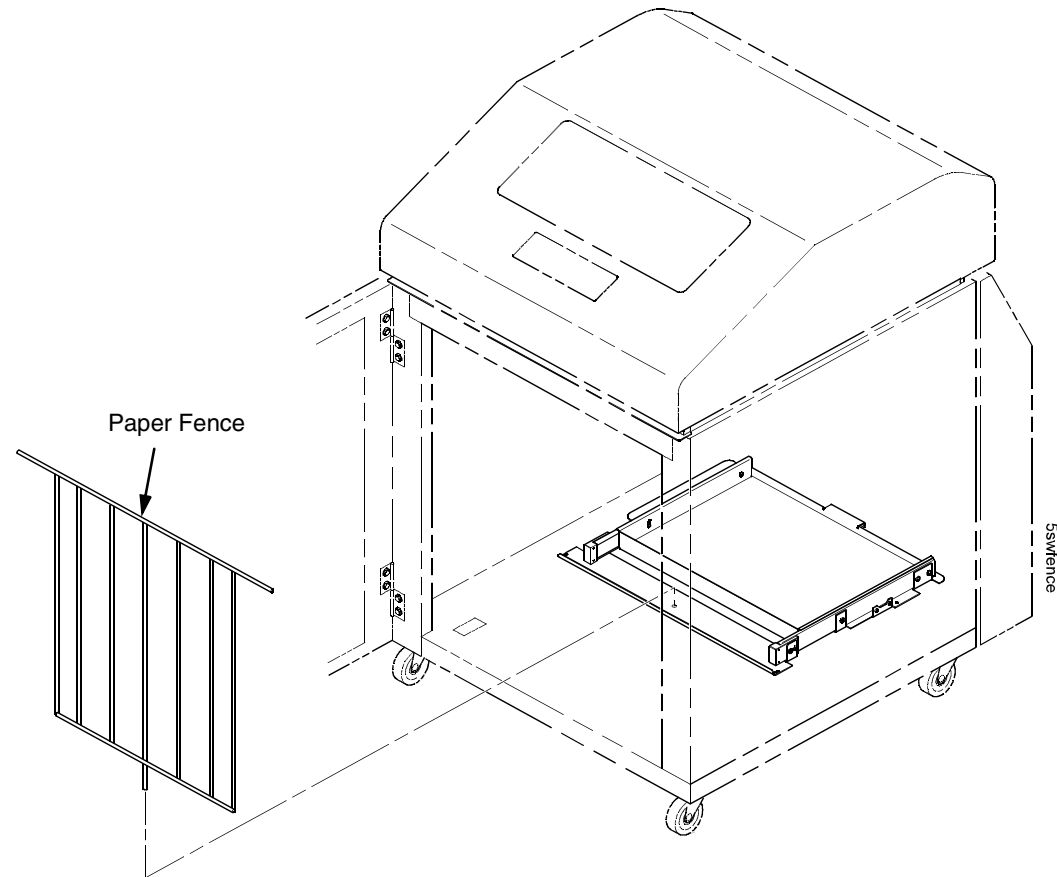

Figure 63. This figure shows how to remove the paper fence.
5. Cut the tie wrap (if present) and remove the paper fence. (Figure 63.)